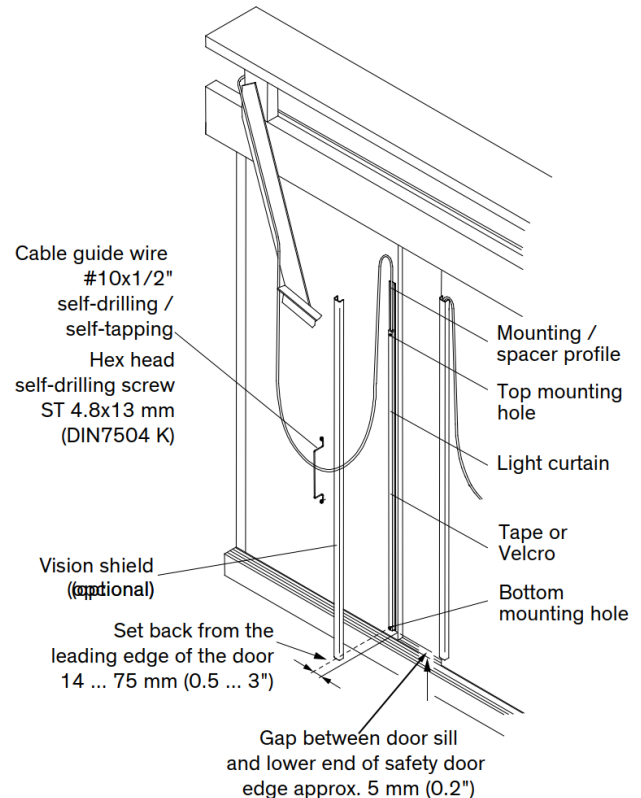

Figure 8: Typical cable guiding in a dynamic installation
- ▶ Install the cable guide wire to prevent possible cable swing (Figure 8).